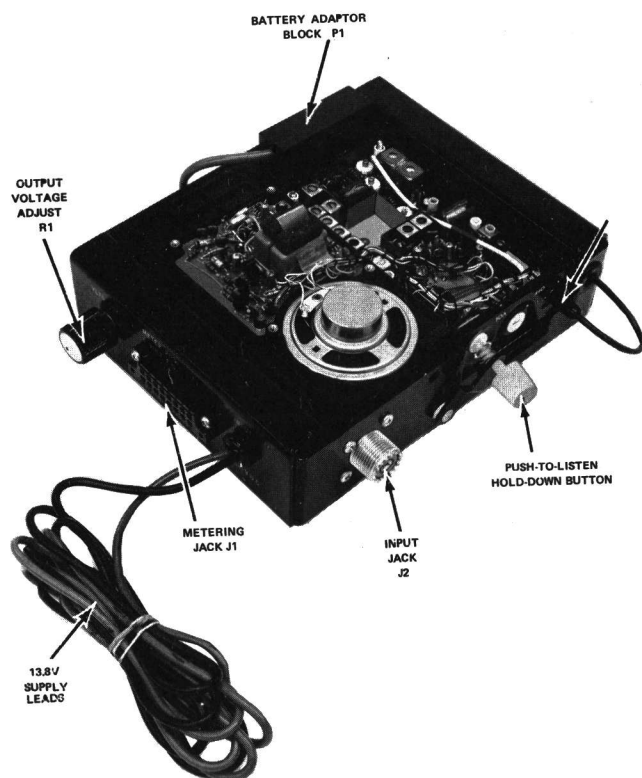

Figure 1 - Test Fixture Layout
General Electric Test Fixture Model 4EX17A10 was designed for servicing Personal Paging receivers PC05 and PC06. A layout of the Test Fixture with a Personal Pager is shown in Figure 1.
2. Place the receiver into the Test Fixture as shown in Figure 1.